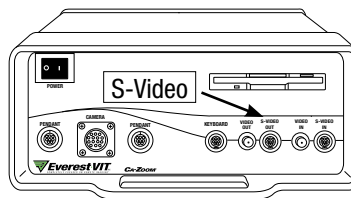

Figure 4
- Connect one end of the provided S-Video cable to the S-VIDEO OUT plug on your Ca-Zoom PTZ system CCU (**Figure 4**) and the other end to the USB A/V Capture Device.